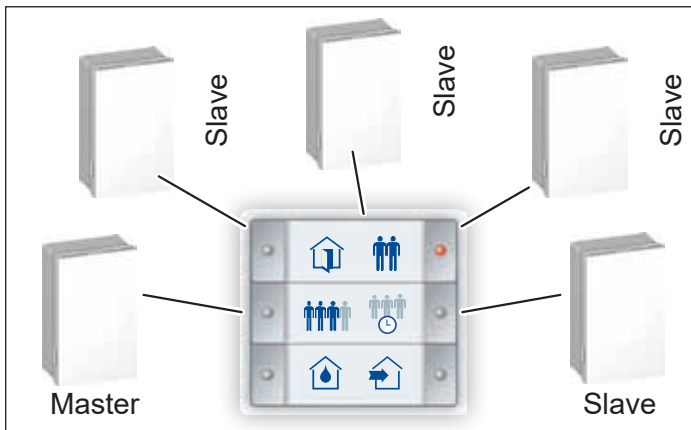

Fig. 33: Connecting the ventilation units in a star configuration
- If possible, the control cables should be arranged and connected in a star configuration (see Fig. 33) from the ventilation units to the InControl pushbutton sensor.